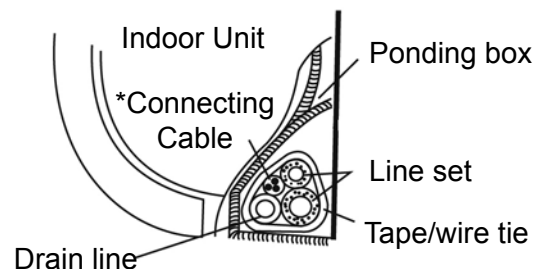

Fig. 17
- A. Bundle the tubing, connecting cable\*, and drain hose with tape or wire ties as shown in (Fig.17).
- B. Be sure to arrange the drain line such that it is at the lowest point within the bundle as they exit the unit and hole in the wall to the outdoors. (Fig. 17)